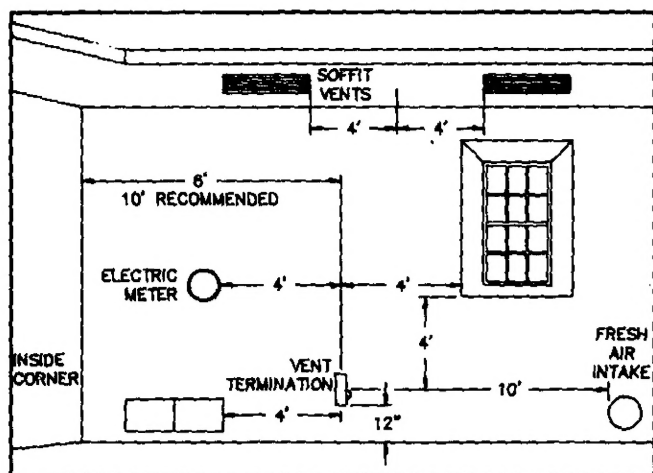

Figure 1
- Locate vent termination following the minimum clearances listed below and see Figure 1.